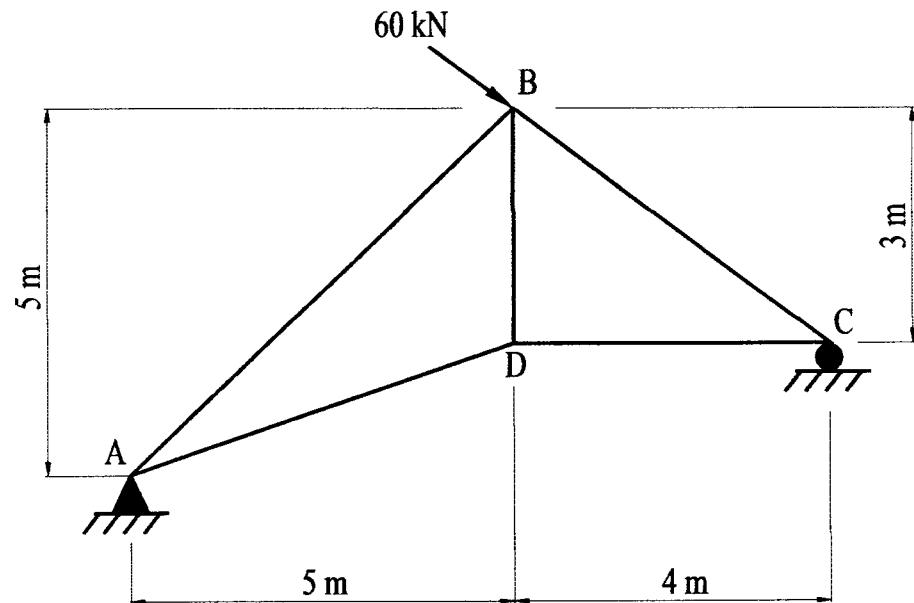

FIGURE Q1
- (b) Figure Q1 shows a statically determinate plane truss subjected to a concentrated load of 60 kN at B to member BC. All members are made from steel with the Young's Modulus of 205 GPa and the cross sectional area is constant.
- Q2** (a) List **Three (3)** advantages of redundant structures in construction. (3 marks)